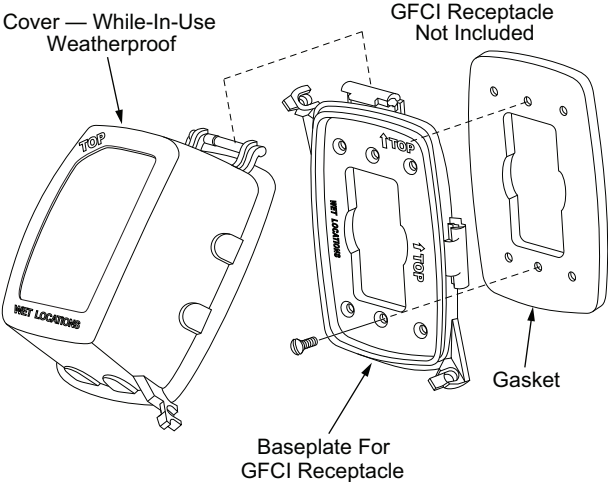

Fig. 23 — Weatherproof Cover Installation
- 4. Mount the weatherproof cover to the backing plate as shown in Fig. 23.